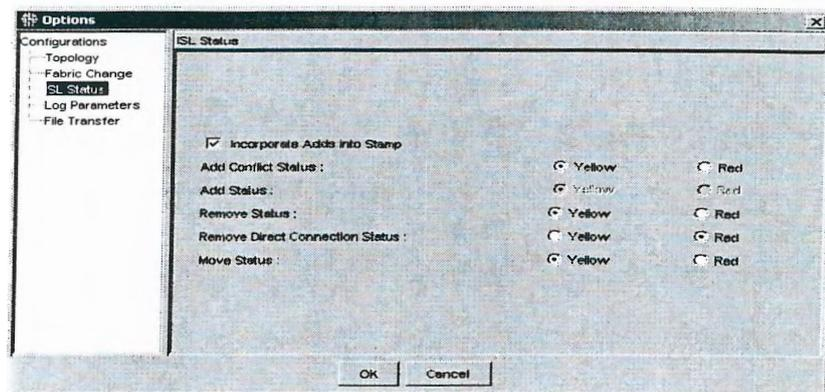

Figure 13-1 ISL Status Options
2. Click the **ISL Status** branch in the **Configurations** navigation tree. ISL Status options appear in the window (Figure 13-1).